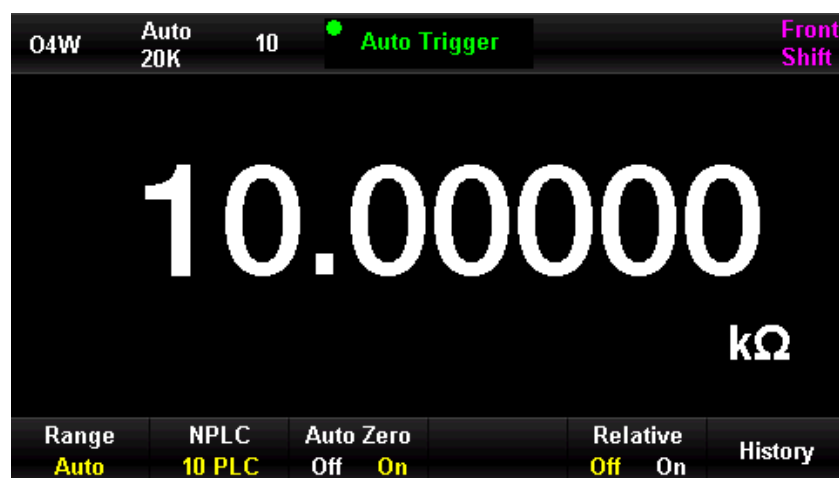

Figure 0–25 4-wire Resistance Measurement Menu
1. Press the **Shift** key on the front panel, and then press **Q 2W** key to enter the 4-wire resistance measurement menu, as shown in Figure 0–24.
2. As shown in Figure 0–23, connect the test lead to the resistance to be measured. The red test lead is connected to the input jack "HI" end, the black test lead is connected to the input jack "LO" end, the above two test lines are constant current source output circuit; the red test lead is connected to the input jack "HI Sense" end, the black test lead is connected to the input jack.